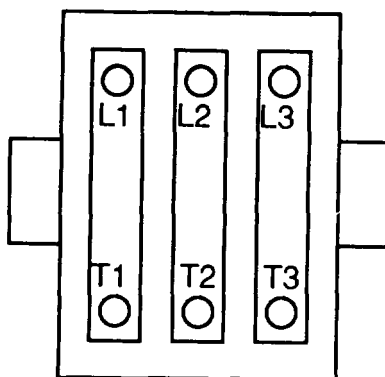

Figure 4-26. Motor Starter (K3)
(2) Motor starter (K3). (See Figure 4-26.)